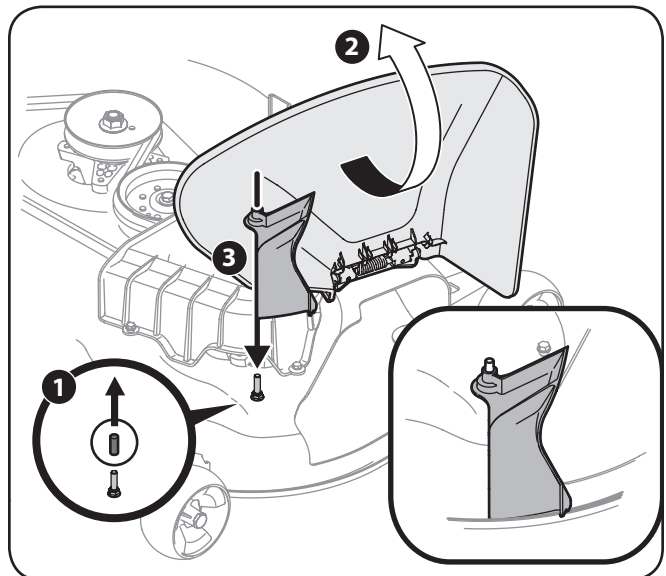

Figure 4-18
2. Remove the deck pin rubber protective cap, 1 in Figure 4-18.
3. Raise the chute deflector (2 in) on the deck and hold it while you install the (731-10133) chute adapter(3), included in hardware pack 689-00341, onto the deck as shown in Figure 4-18.